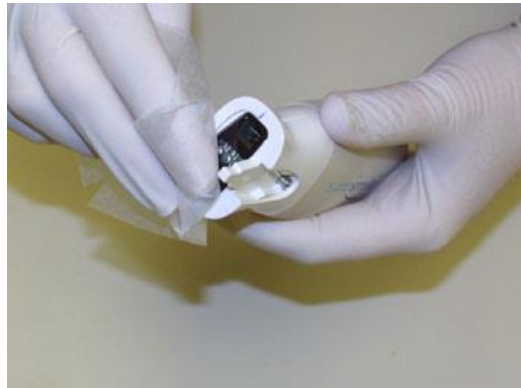

Figure 7: Cleaning the orascanner 2 Front Window
2. Wipe the orascanner 2 front window with an optical cloth as shown (Figure 7).